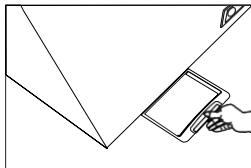

Figure 2
17. Remove the drain plug by rotating. (Figure 2)